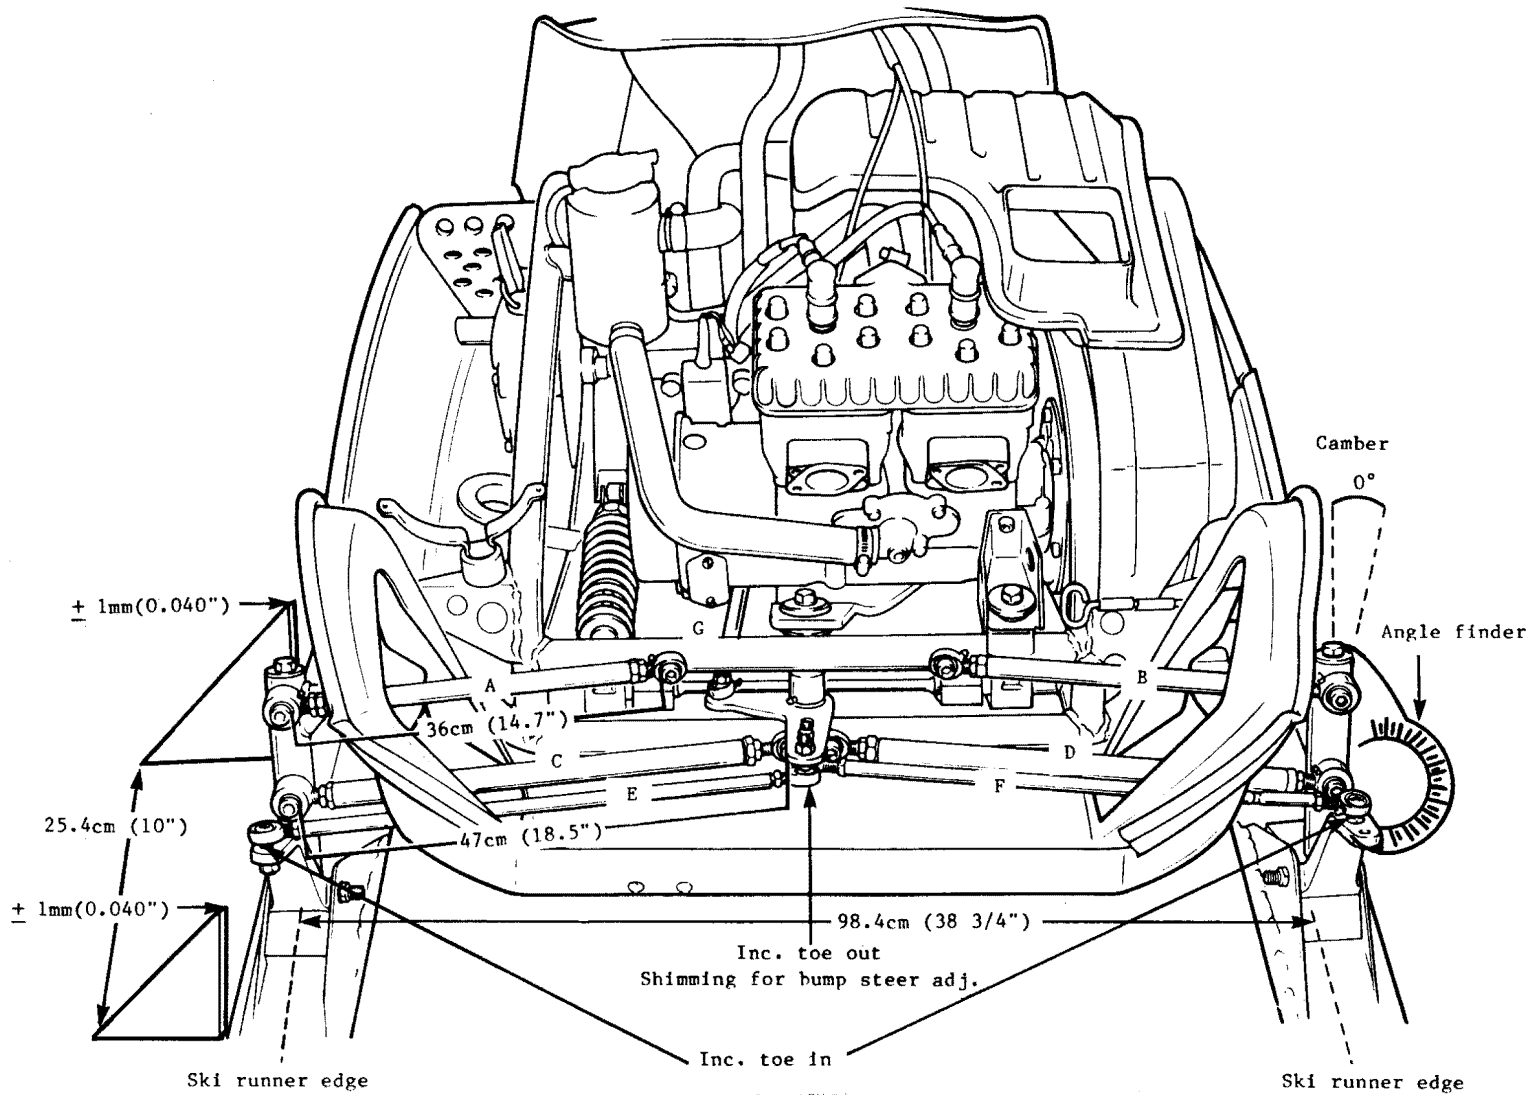

Fig. 7.14.1
- A) As a starting point set tie rods length to (A-B) 36 cm (14.7") and (C-D) 47 cm (18.5") (measure taken at outside head retaining screws). See Fig. 7.14.1. To do so loosen the tie rods (A-B-C-D) lock nuts and turn rods manually to the basic setting. Finalize adjustment using the rods ensuring that the upper and lower rods length are equal on both sides.
- B) Using an appropriate angle finder positioned on ski legs housing, check the ski leg's camber. Camber must be 0°. If not, adjust as per rod (A-B-C-D). See Fig. 7.14.1.
Loosen the lock nuts of the tie rods (E-F). See Fig. 7.14.1. Turn the tie rod manually until the skis are properly aligned. Firmly retighten the lock nuts.
Loosen the lock nuts of the tie rod (G). See Fig. 7.14.1. Turn the tie rod manually until the handlebar is horizontal. Retighten the lock nuts firmly.